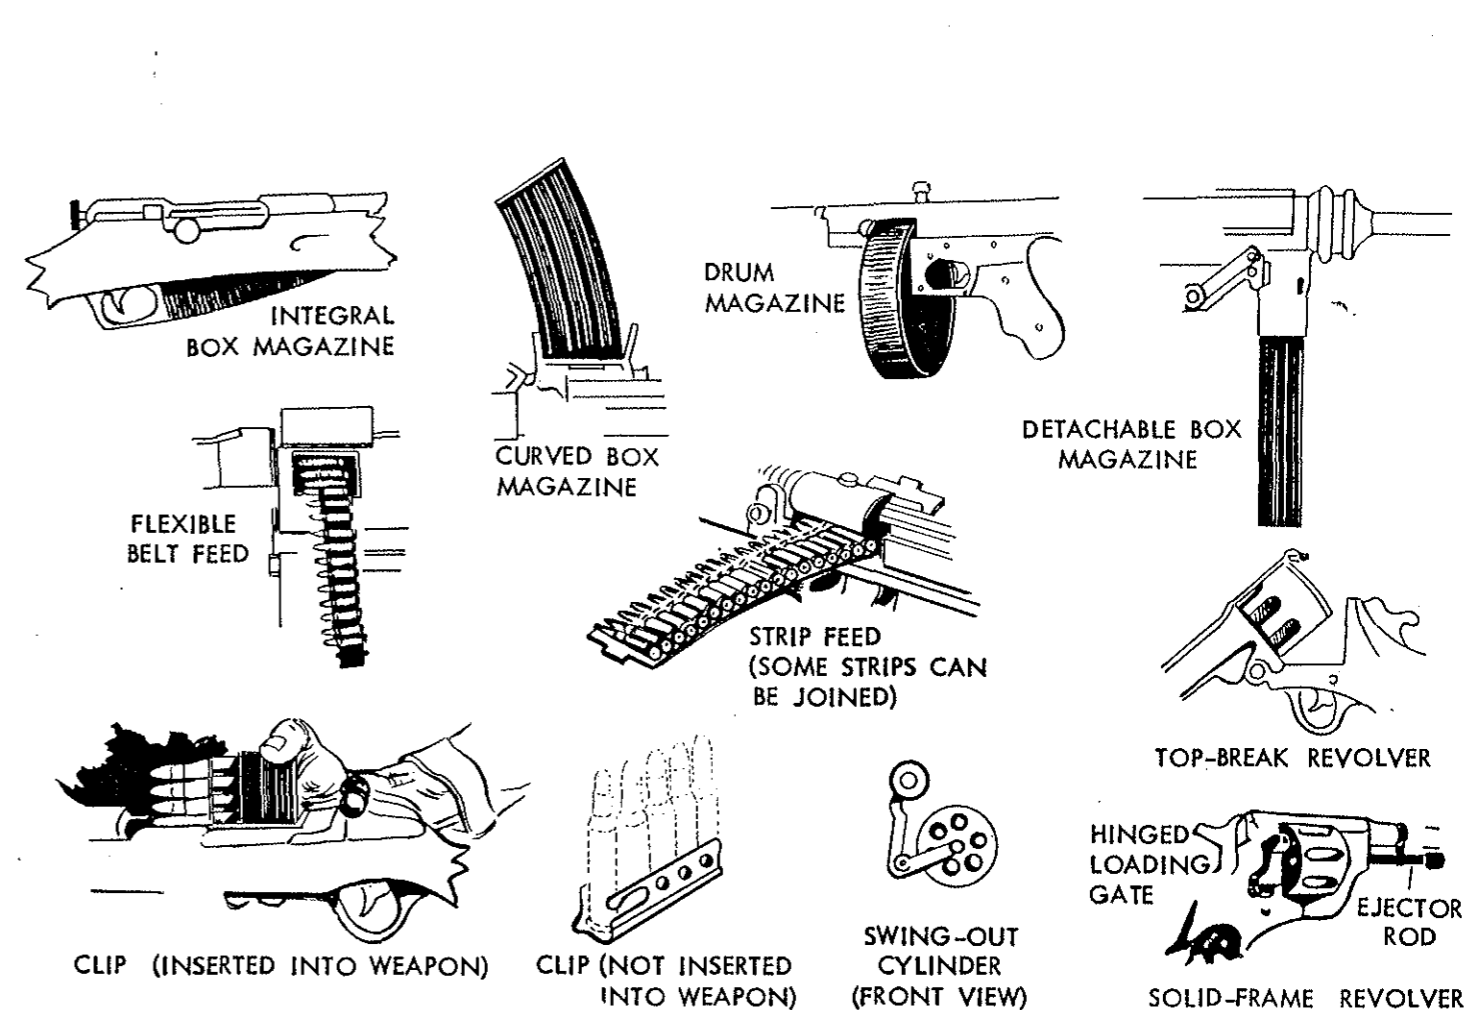

Figure 14.
11. What are the ammunition feeding arrangements? This should include—(a) nature and form of the ammunition holder or conveyor (typical magazines are shown in fig. 14); (b) position of the ammunition holder in the weapon; (c) number of rounds which the magazine or belt holds; and (d) method of refilling.